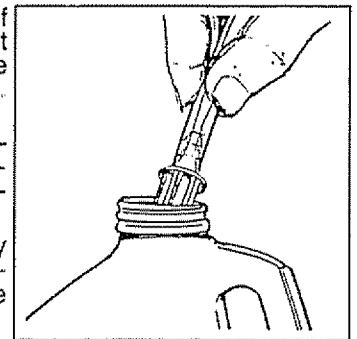

FIG. 11
- Place the small filter of the clear, detergent syphoning tube into the detergent container (Fig. 11).